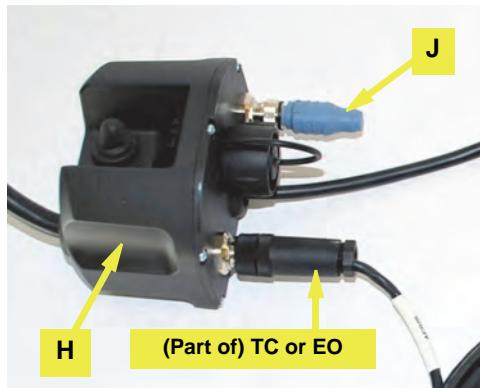

Figure 5d: CAN harness and terminator connected to junction box
- e. Connect the threaded 5-pin connector on the CAN bus harness **TC** (eDriveTC) or **EO** (eDriveX) to either of the threaded connectors on the junction box **H**. Connect the CAN bus terminator **J** to the other threaded connector on the junction box (Figure 5d).